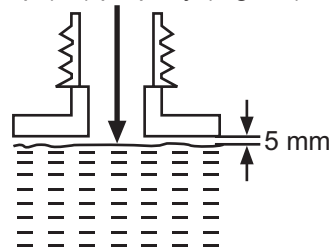

Fig. 15
- Fill correctly mixed fuel / oil into the tank using a fuel funnel fitted with a filter to avoid debris entering the tank. Do not overfill. Leave a minimum 5 mm of space between the top of the fuel and the inside edge of the tank to allow for expansion (Fig. 15).